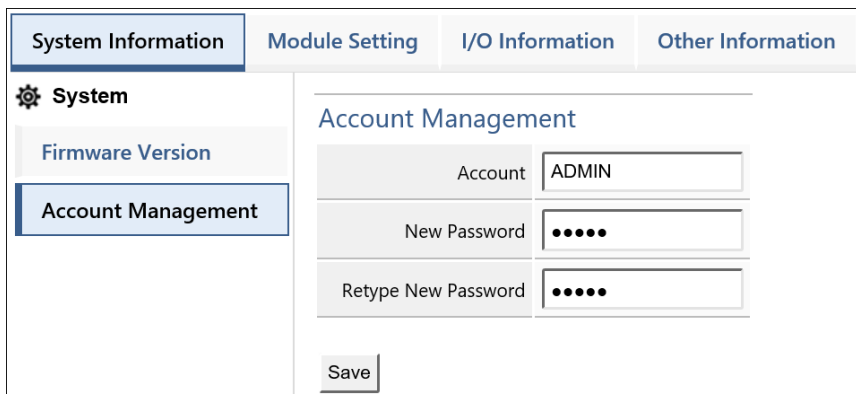

Figure 2.5 Account Management
Step3 Click "System Information" → "Account Management" to modify account and password for higher security, as shown in Figure 2.5